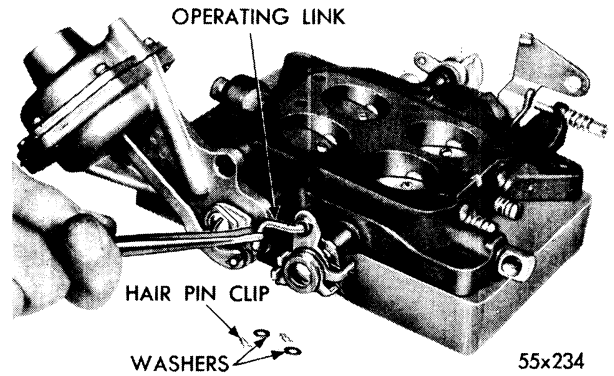

Fig. 21—Installing Throttle Operating Link and Washers
- (20) Engage flex spring ends with notches on each lever, then install the throttle operating link as shown in Figure 21.